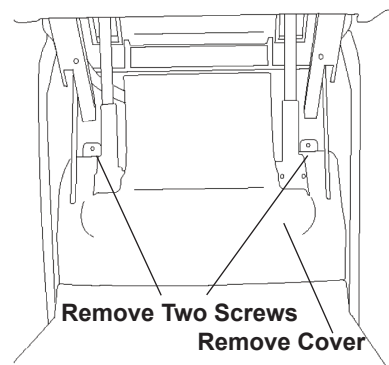

Figure 24.
2. Remove shroud below seat to expose actuators and control box. (See Figure 24.)